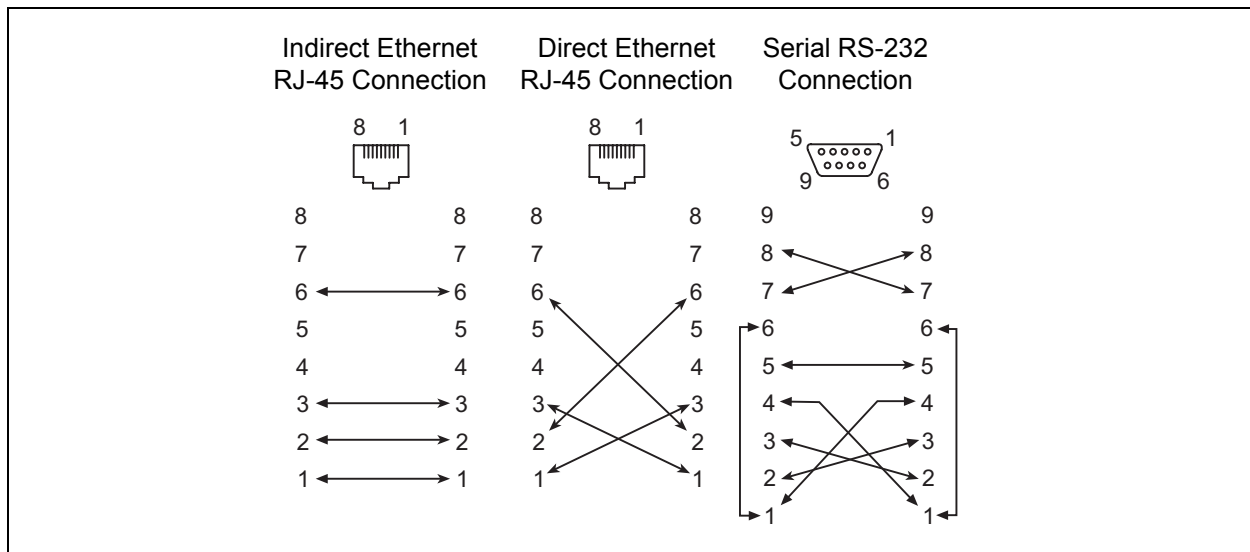

Figure 4-2. Workstation Cable Connections
- Indirect Ethernet connection from the management workstation to the switch RJ-45 Ethernet connector through an Ethernet switch or a hub. This requires a 10/100 Base-T straight cable as shown in Figure 4-2.
- Direct Ethernet connection from the management workstation to the switch RJ-45 Ethernet connector. This requires a 10/100 Base-T cross-over cable as shown in Figure 4-2.
- Serial port connection from the management workstation to the switch RS-232 serial port connector. This requires a null modem F/F DB9 cable as shown in Figure 4-2.